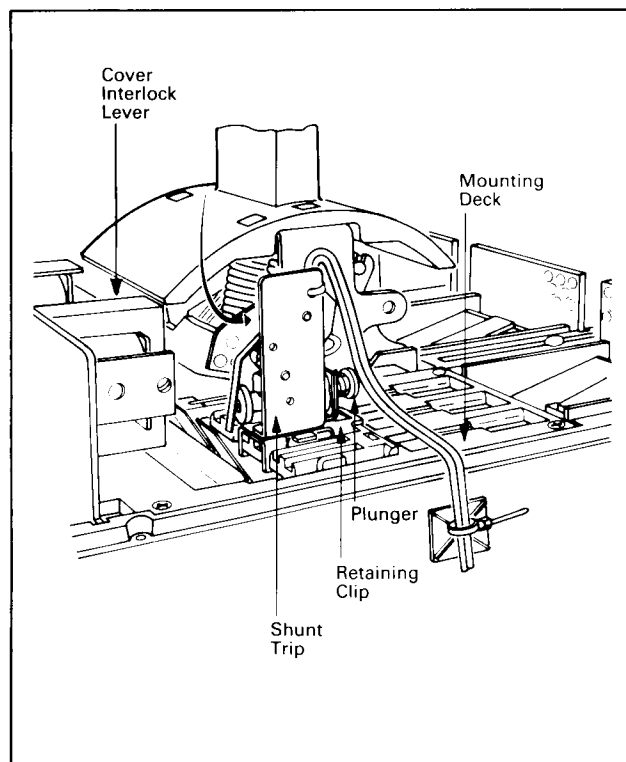
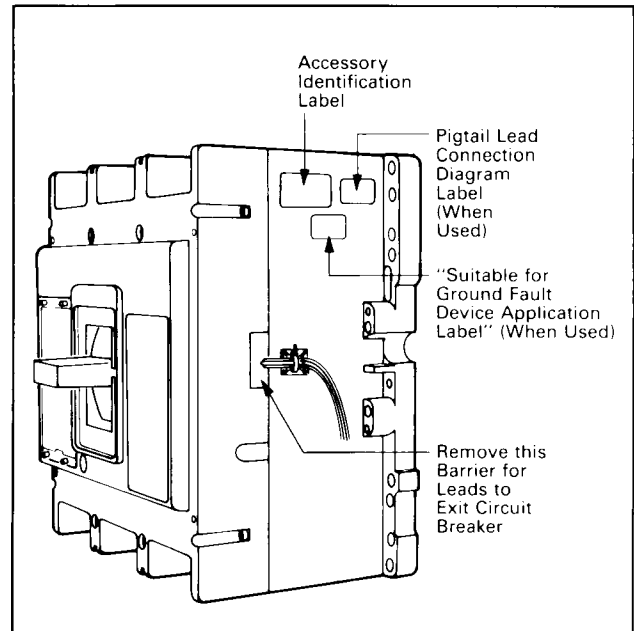

Fig. 2-3. Shunt Trip Positioned and Locked in Mounting Deck
Fig. 2-4. Preferred Mounting Locations for Accessory Nameplate Labels
- c. Slide the shunt trip toward the line end of the circuit breaker until the retaining clip snaps into recess in deck (see Fig. 2-3).
2-6. Attach cable tie mounting pad to side of circuit breaker (See Fig. 2-4 for location). Route leads to mounting pad. Ensure leads line up with slot in cover and are clear of all moving parts. Secure leads to mounting pad with cable tie. Leads from multiple accessories may be secured by a single cable tie and mounting pad (see Fig. 2-3).
2-7. Remove barrier indicated in Fig. 2-4 from cover accessory lead slot.
Note: The circuit breaker's cover interlock will prevent the breaker from being latched while the cover is removed. The interlock consists of a spring loaded lever pivoting on the right side plate just below the handle (see Fig. 2-3). Use a tool to depress and hold the lever even with the top of the circuit breaker base while performing mechanical tests.
- Using a small flat-blade screwdriver, depress shunt trip plunger (Fig. 2-3). Circuit breaker should move to trip position.
2-11. Position accessory labels supplied with kit on circuit breaker as shown in Fig. 2-4.